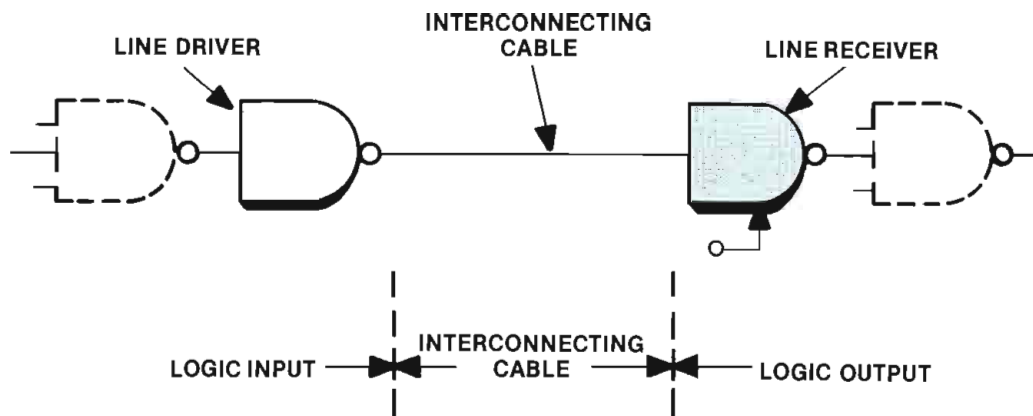

Figure 7. The most familiar of all serial data communications: RS-232.
The most familiar of all serial data communications standards is RS-232, established by the EIA (see Figure 7). Although its use is limited to dedicated data links, this is the only standard commonly used in the broadcast industry that defines all aspects of implementing a serial data link (except for the data rate). As noted previously, RS-232 specifies NRZ encoding. A mark state (1) is established at -5Vdc to -15Vdc while a space state (0) is set at +5Vdc to +15Vdc.